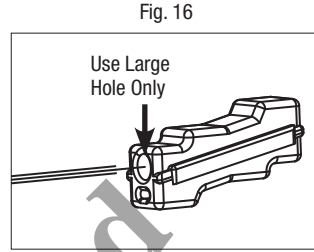
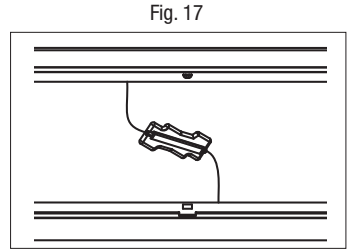

Fig. 16
Fig. 17
9. Using the orange in-line connector, firmly connect the green ground wire from main fixture housing (A) with green wire on the fixture mounting channel (B) (Fig. 16). Be sure to firmly press wires into larger hole on connector. Smaller hole is not to be used. (Fig. 17).